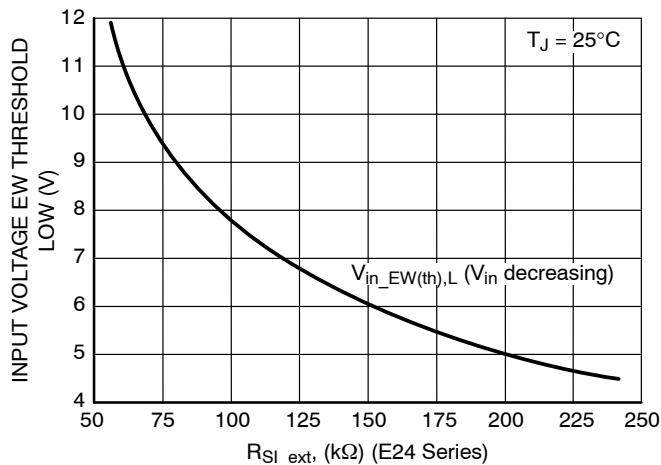
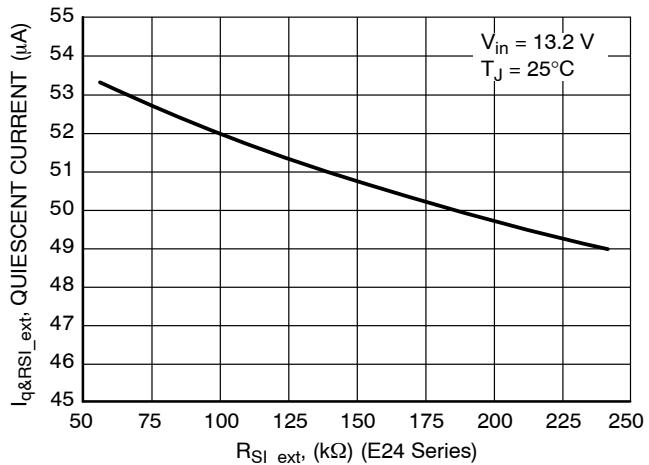

Figure 26. Input Voltage EW Threshold Low vs.
Figure 27. Quiescent Current vs.  $R_{SI_{\text{ext}}}$
13.  $I_q$  for Preset EW Threshold Options is measured when  $R_{SI\_ext}$  is not used. For typical values of  $I_q$  vs  $R_{SI\_ext}$  see Figure 27.
Practically only preset options above 4.5 V can be used without  $R_{SI\_ext}$  due to minimum operating input voltage value limitation. For other preset options the trip point has to be adjusted externally using  $R_{SI\_ext}$  resistor connected between input monitor SI and GND (see Figure 1). For other preset options  $R_{SI\_ext}$  has to be used to achieve  $V_{in\_EW(th)} > 5.5$  V (minimum operating input voltage value). The value for  $R_{SI\_ext}$  is recommended to be selected in range from 50 k $\Omega$  to 250 k $\Omega$  and the trip point can be shifted according to Figure 26. In case of  $R_{SI\_ext}$  values higher than 200 k $\Omega$  two resistors in series could be used in order to eliminate leakage current of the resistor and hence ensure precision of its resistance value. The higher is  $R_{SI\_ext}$  the lower is overall Quiescent Current of the application (see Figure 27). General formulas for calculation of  $V_{in\_EW(th)Low}$  or  $R_{SI\_ext}$
The Sense Output is from an open drain driver with an internal 30 k $\Omega$  pull up resistor to  $V_{out}$ . Figure 26 shows the SO Monitor timing waveforms as a result of the circuit depicted in Figure 1. If the input voltage decreases the output voltage decreases as well. If the SI input low threshold voltage is crossed it causes the voltage on the SO output goes low sending a warning signal to the microprocessor that a reset signal may occur in a short period of time.  $T_{WARNING}$  is the time the microprocessor has to complete the function it is currently working on and get ready for the reset shutdown signal.